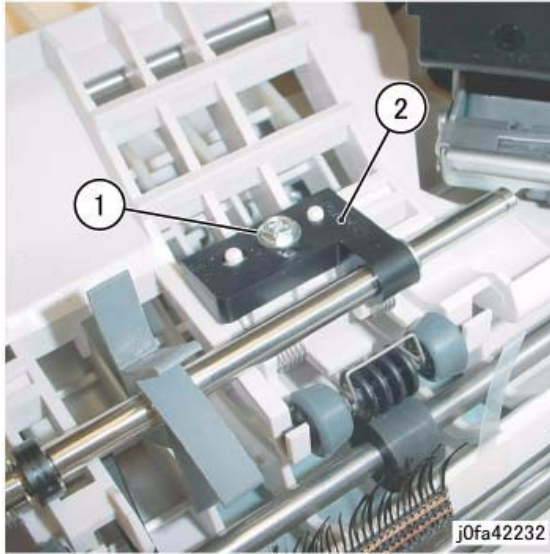

Figure 4 Removing the Support Bearing
7. Remove the Support Bearing from the Entrance Lower Chute Assembly (Figure 4):